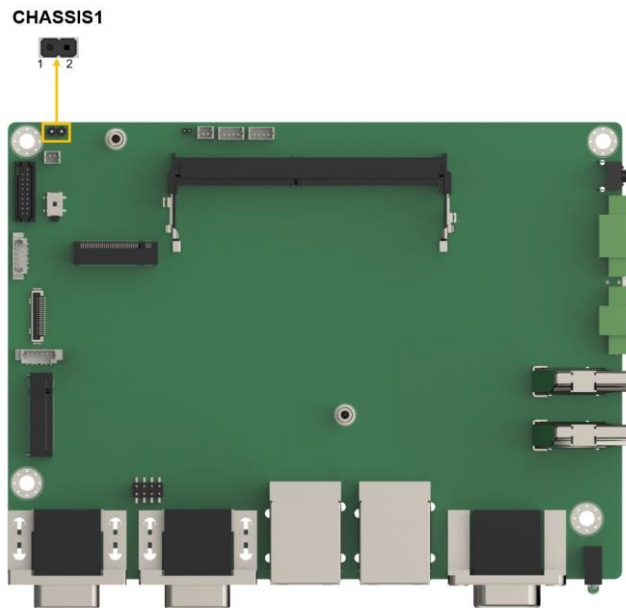

Figure 4-5: Case Open Circuit Setting Locations
- CN Location:** See **Figure 4-5**